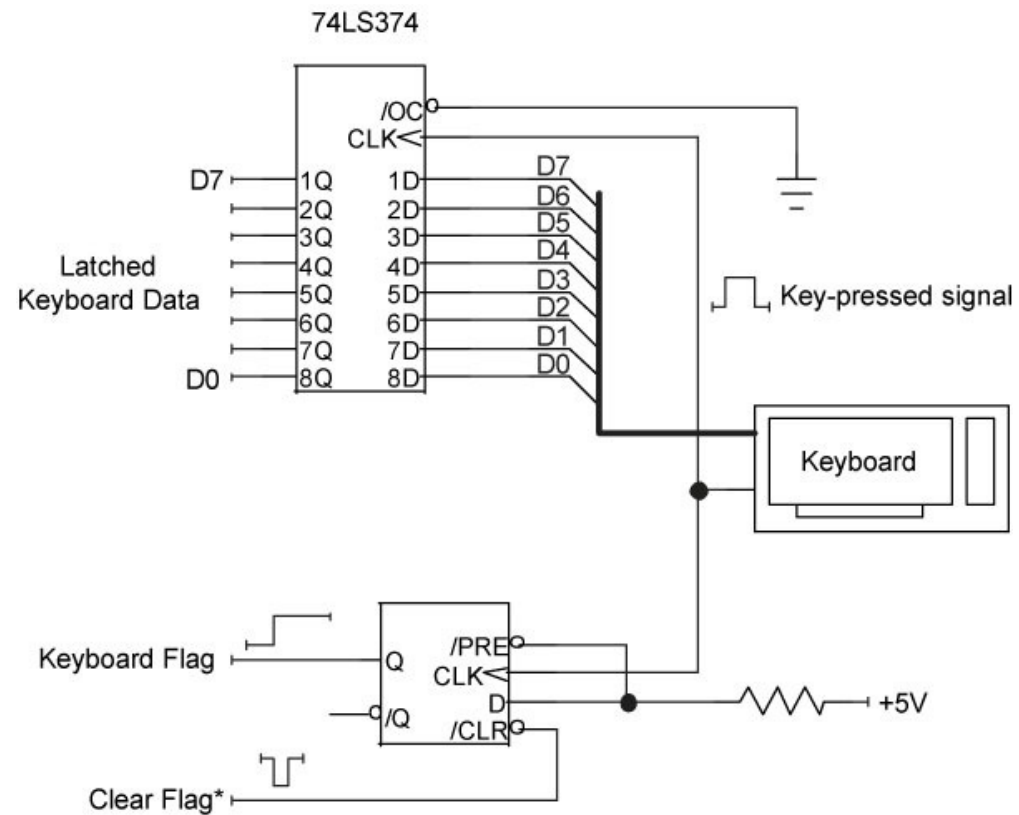

Figure 3-11
**Figure 3-11** includes a *flip-flop circuit* that serves as a flag. The flip-flop works like a 1-bit memory. It transfers the state of the D input to the Q output during the logic-0 to logic-1 (positive-going) edge of the signal applied to the flip-flop’s clock (CLK) input. In this case, the circuit designers have connected the D input to +5V or logic 1. The CLK signal comes from the keyboard’s key-pressed signal, the same signal that latches the keyboard data. When the flip-flop receives the CLK signal, the logic 1 at the D input gets transferred to the Q output, which provides the flag signal to the computer. A logic 0 at the Q output indicates no keyboard data, while a logic 1 tells the computer the latch has new keyboard data.